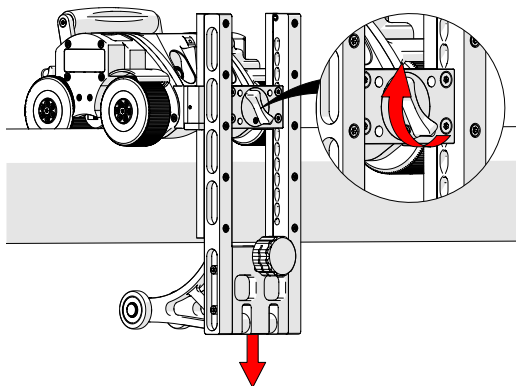

Fig. 9 - Adjust base to remove crawler
2. If necessary, rotate the vertical release knob to allow the base to slide down, providing more clearance to remove the crawler from the pipe (*Fig. 9*).